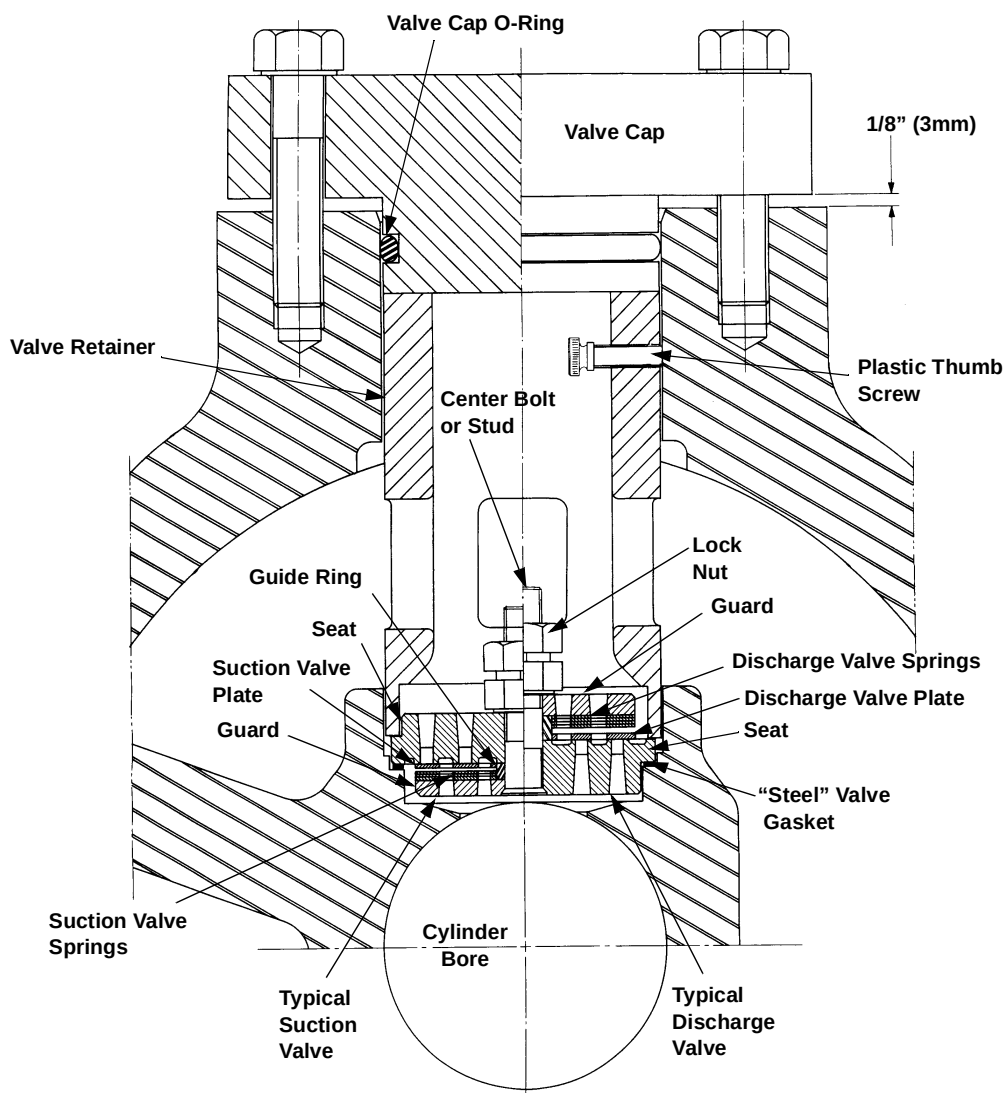

FIGURE 5-17: TYPICAL VALVE ASSEMBLIES
1. Slightly loosen all of the bolts on each valve cap. With all the bolts loose, the cap should stay in its original position. If it pushes out on its own accord-stop! Take steps to completely vent the cylinder. See Caution above. A typical valve assembly is shown in Figure 5-17: on Page 5-31.